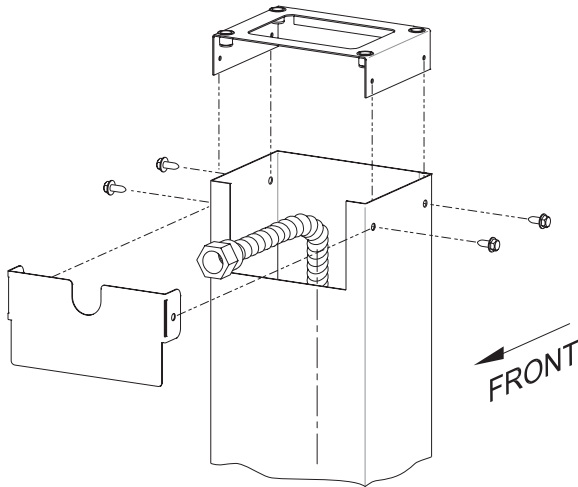

Figure 5
5. **For R3 Series Grill Heads:** Slide the Post Cover Plate onto the front of the post. Slide the Upper Bracket onto the post. Secure the Post Cover Plate and Upper Bracket to the top of the square post using four #10 – ½ screws. See Figure 5.
For Grill Heads other than R3 Series: Slide the Upper Bracket into the post. Secure the Upper bracket to the top of the square post using four #10 – ½ screws. See Figure 5.